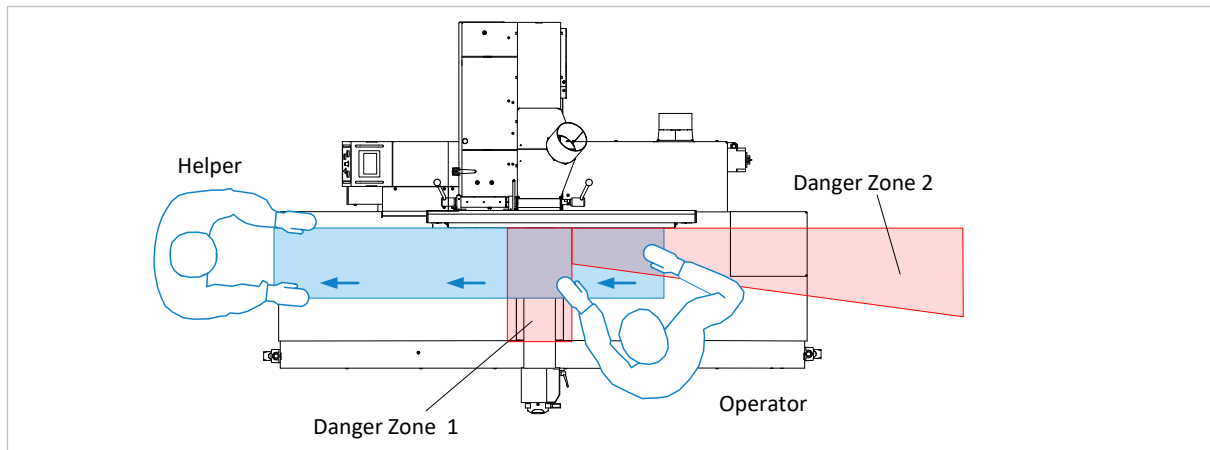

Figure 2: Danger zones during surface planing
- When planing & jointing, the operator of the machine must generally stand in front of the planing table, to the right of the cutter block resp. planer guard. It is forbidden to enter the Danger Zone 2 marked in ⇨ Figure 2 while the cutter is running.